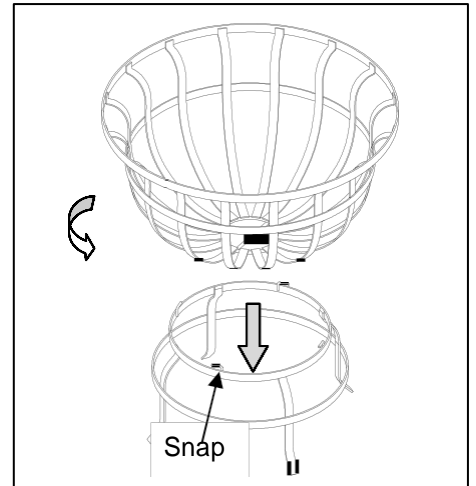

Fig. 1
1. Put top frame on base frame center, then rotate it counterclockwise to lock frame together. Fig. 1